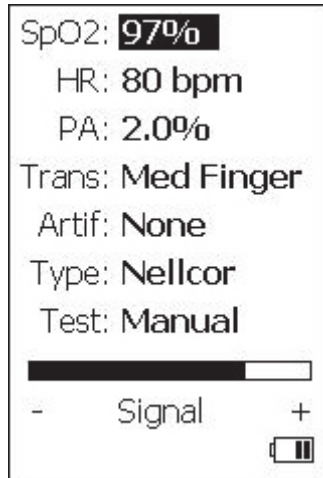

Figure 5. SpO2 Parameter Change
2. Push **SELECT**. The highlight moves to the SpO2 parameter value as shown in Figure 5.